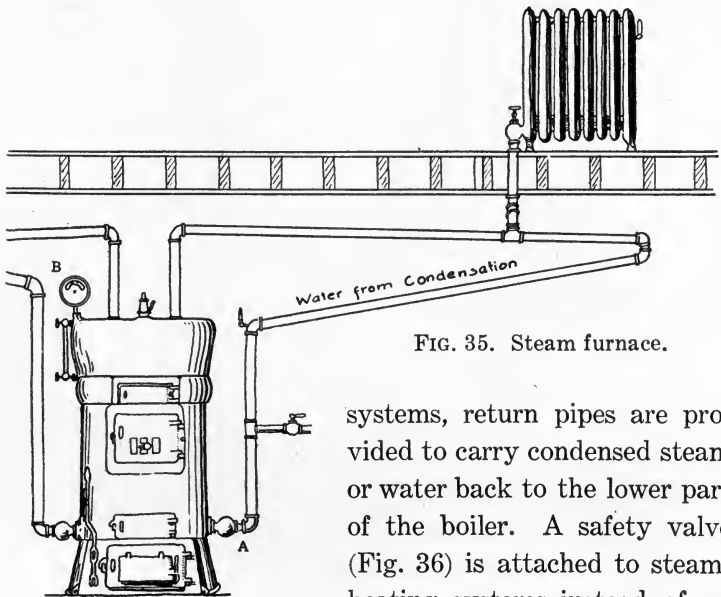
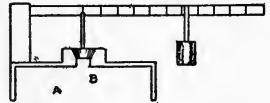

FIG. 35. Steam furnace.
FIG. 36. Safety valve.
70. **Equipment for Steam Heat.** A steam-heating system consists of a boiler, a fire pot, pipes from the boiler leading to the radiators, and radiators (Fig. 35). On some
systems, return pipes are provided to carry condensed steam or water back to the lower part of the boiler. A safety valve (Fig. 36) is attached to steam-heating systems instead of an expansion tank. This keeps the pressure of the steam in the boiler from becoming too great, and thereby prevents an explosion. The pressure gage (*B*, Fig. 35) must be set, and, when set, should only be changed by a person understanding it. Build and manage the fire for a steam boiler the same as
71. Steam Gages. Steam gages (*B*, Fig. 35) are devices for indicating the pressure of steam within an inclosure. They are a kind of spring balance. When the pressure of the steam increases, it pushes up on the spring, and this turns the hand of the indicator, which shows the number of pounds of pressure that the steam is exerting on the inside of the boiler or container.
72. Safety Valve. A safety valve (Fig. 36 and *A*, Fig. 38) consists of a small opening to a boiler over which is a weight. When steam is developed until it makes enough pressure on the inside of the valve to raise this weight, some of the steam escapes, thus lowering the pressure on the inside until the weight falls back into place. Never let anything interfere with the action of safety valves.